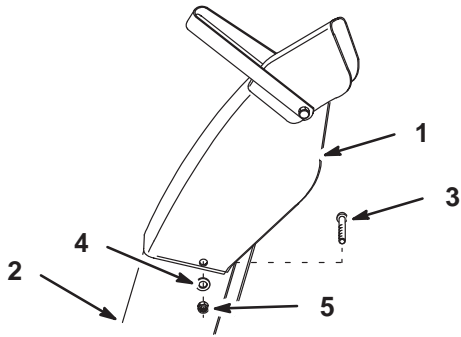

Figure 7
2. Assemble the upper discharge chute on top and outside of the lower section with 3 bolts (5/16 x 5/8 inch) (heads on the inside), 3 washers (5/16 inch), and 3 locknuts (5/16 inch) (fig. 7).